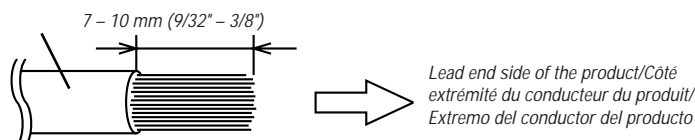

Fig. 8
2. Remove the insulation from the ends of the wire leads by about 7 – 10mm (9/32" – 3/8"). (Fig. 8)
2. Retirer l'isolation des bouts des fils de connexion de 7 – 10mm (9/32" – 3/8"). (Fig. 8)
2. Quite aproximadamente 7 – 10mm de aislación de los extremos de los alambres. (Fig. 8)